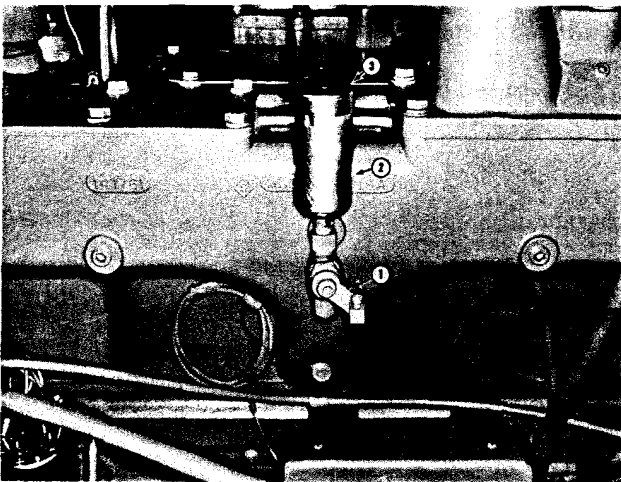

Fig. 1-14, (N11841). Ether compound metering equipment
1. Close shut-off cock (1, Fig. 1-14). If properly installed, the spring will hold it closed.
2. Remove cap (2) and insert capsule of starting fluid.